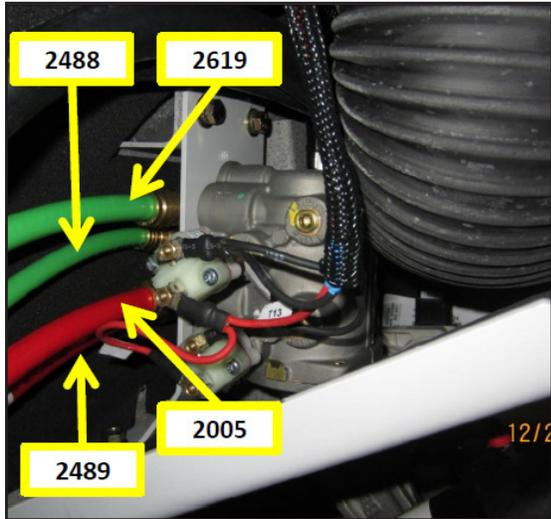

Figure 4: Disconnect air lines 2619, 2488, 2005, and 2489 from the treadle valve.
3. Disconnect air lines from the left side of the treadle valve (Figure 4).